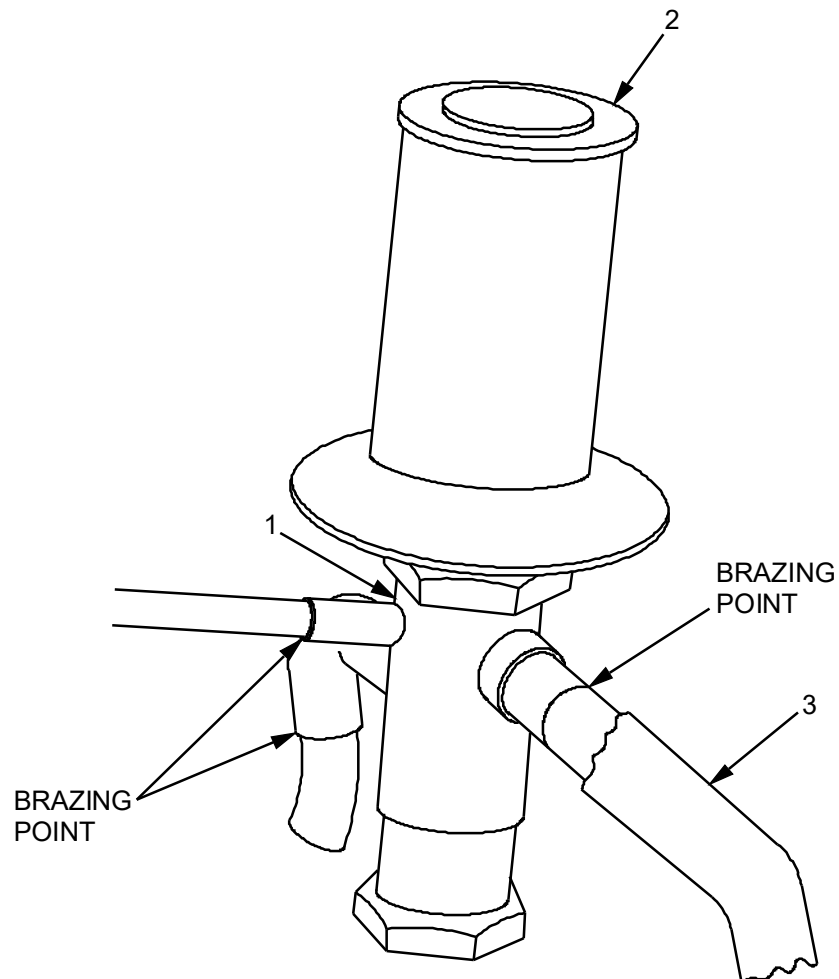

Figure 3. Hot Gas By-Pass Valve Replace.
3. Remove insulation (Figure 3, Item 3) from hot gas by-pass valve (Figure 3, Item 1), and surrounding pipes to safely allow brazing.
5. Debraze hot gas by-pass valve (Figure 3, Item 1) at brazing points (see Figure 3). If necessary, refer to WP 0115 for brazing procedures.
6. Remove hot gas by-pass valve (Figure 3, Item 1).
1. Install hot gas by-pass valve (Figure 3, Item 1).
2. Braze hot gas by-pass (Figure 3, Item 1) into place. If necessary, refer to WP 0115 for brazing procedures.
3. Install insulation (Figure 3, Item 3) onto hot gas by-pass valve (Figure 3, Item 1) and surrounding pipes.
- a) Remove cap (Figure 3, Item 2) from hot-gas by-pass valve.
6. Replace cap (Figure 3, Item 2) on hot gas by-pass valve (Figure 3, Item 1).